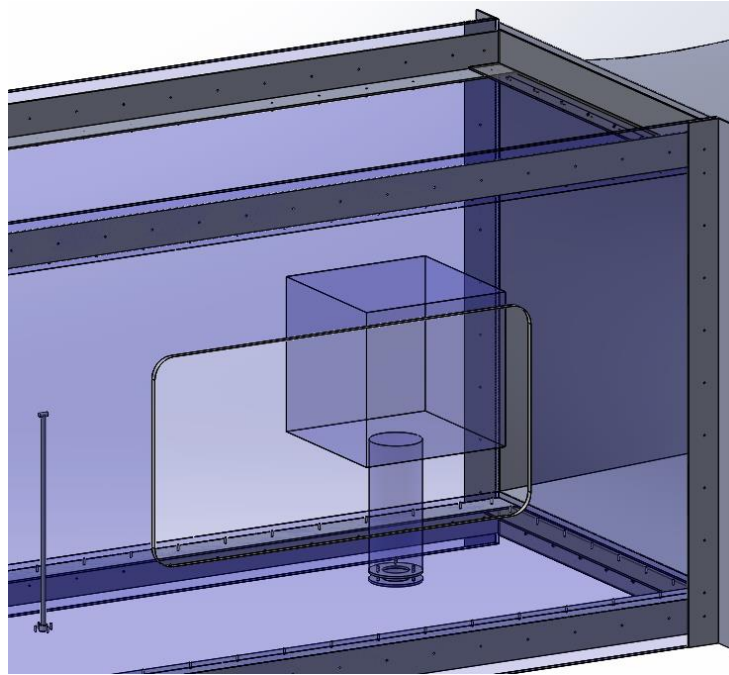

Figure 2. Allowable turbine volume
- At zero yaw angle, the entire turbine must fit within the volume specified below and shown in Figure 2.